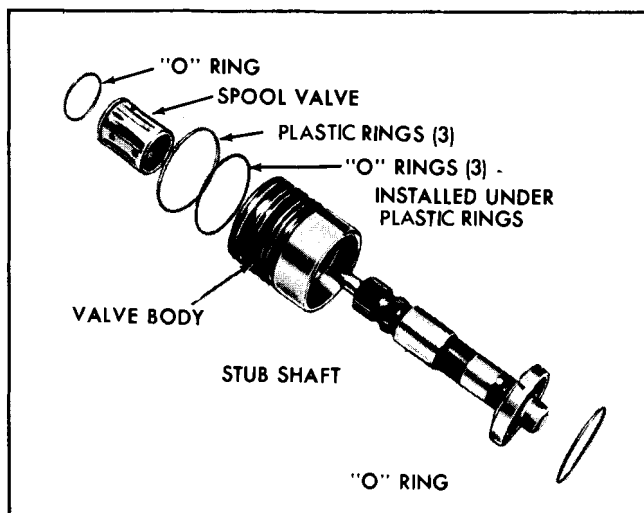

Fig. 9-94 Exploded View of Valve Body and Shaft Assembly
1. If valve body "O" rings and plastic rings were removed, install new "O" rings in the oil ring grooves and lubricate with power steering fluid (Fig. 9-94).